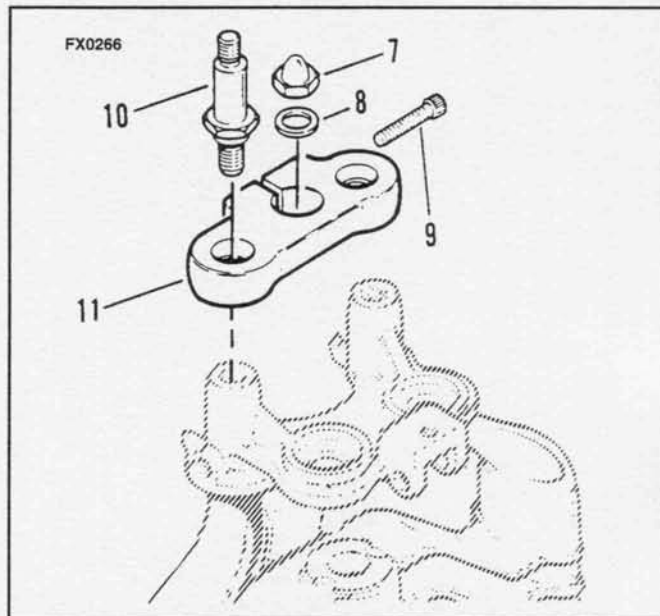

Figure 2-66. Upper Triple Clamp and Fork Leg Studs
3. Seat steering head bearing by torquing bearing retainer (12) to 40 ft-lbs. (54 Nm). Loosen and then re-torque bearing retainer (12) to 6 ft-lbs (8 Nm).
4. See Figure 2-66. Place upper triple clamp (11) in position on stem and rigid fork legs.